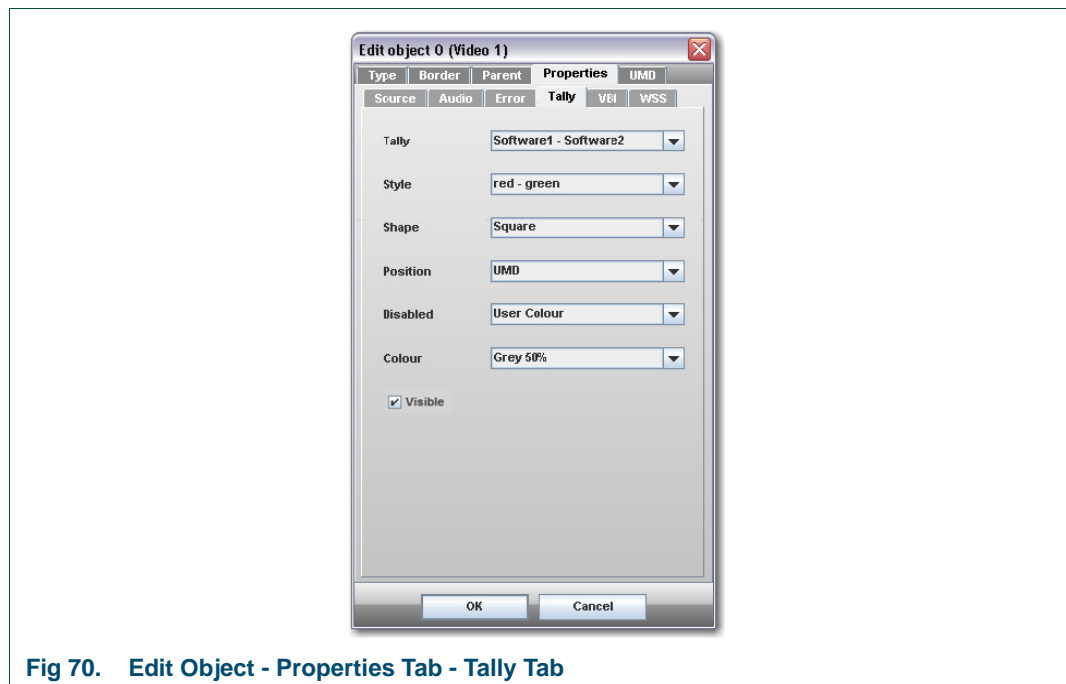

Fig 70. Edit Object - Properties Tab - Tally Tab
11. From this screen select the **Properties** tab and then select the **Tally** tab. Settings should be as shown in Fig 70.